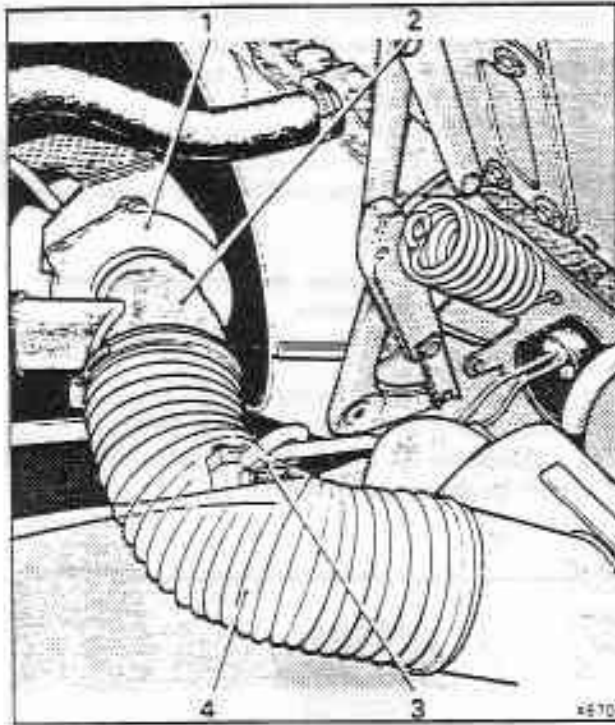

Fig H2-2 Air intake (Turbocharged cars)
17. On Turbocharged cars, remove the air intake trunk, air dump (recirculation) pipe, air delivery pipe heat shield, and turbocharger intake adapter (see fig. H2-2). Blank off the turbocharger to prevent the ingress of foreign matter.
23. On cars fitted with an engine oil cooler, remove the oil cooler pipe mounting situated at the front of the right-hand longeron (see fig. H2-2).
17. On Mulsanne Turbo cars, remove the air intake trunk, air dump (recirculation) pipe, air delivery pipe heat shield, and turbocharger intake adapter (see fig. H2-2). Blank off the turbocharger to prevent the ingress of foreign matter.
23. On Mulsanne Turbo cars, remove the oil cooler pipe mounting situated at the front of the right-hand longeron (see fig. H2-2).